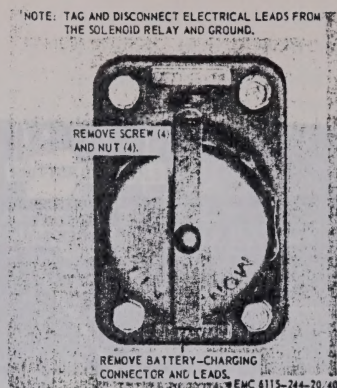

Figure 40. Battery-charging connector, removal and installation.
a. *Removal.* Refer to figure 40 and remove the battery-charging connector from the generator set.
- (1) Clean the battery-charging connector and attached leads with a cloth dampened with an approved cleaning solvent and dry thoroughly.
- (2) Inspect the connector for cracks, breaks, and other damage. Inspect the leads for broken or frayed insulation, breaks, and other damage.
- (3) Replace all parts that are excessively damaged, worn, or defective.
c. Installation. Refer to figure 40 and install the battery-charging connector on the generator set.